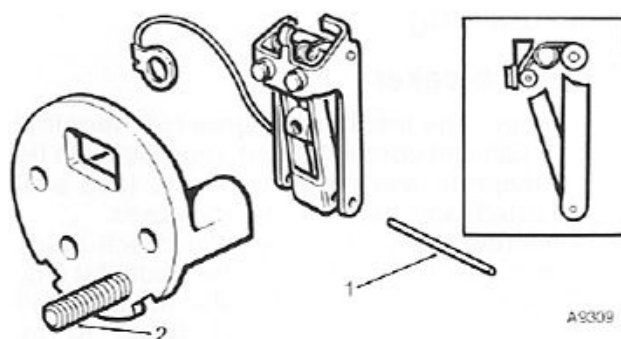

Fig 3. Fitting the rocker assembly to the pedestal. (Inset) the correct position of the centre toggle spring.
- 2 Assemble the square-headed 2 BA terminal stud (2) to the pedestal, the back of which is recessed to take the square head (see Fig. 3).
- 1 Invert the pedestal and fit the rocker assembly to it by pushing the steel pin (1) (see Fig. 3) through the small holes in the rockers and pedestal struts. Then position the centre toggle so that, with the inner rocker spindle in tension against the rear of the contact point, the centre toggle spring is above the outer rocker spindle.